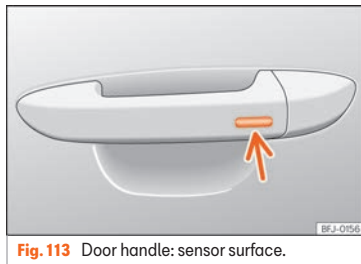

Fig. 113 Door handle: sensor surface.
- Press and hold the locking sensor surface »» Fig. 113 (arrow) on the door handle to close the sunroof. If you release the sensor surface, the closing movement stops.
The anti-trap function can reduce the risk of injury when closing the sunroof and the sun blind »» Fig. 113 (arrow) Δ. If the sunroof or sun blind encounter resistance or an obstacle when closing, they reopen immediately.